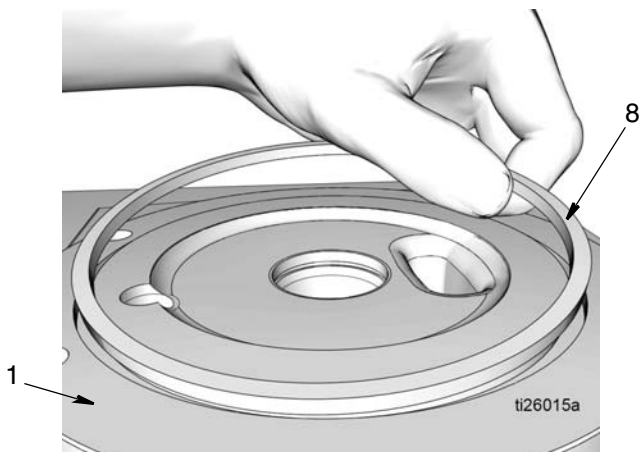

FIG. 31
22. Remove square o-ring (8) from the pump base (1) (FIG. 31). Dispose of o-ring according to all regulations for proper disposal